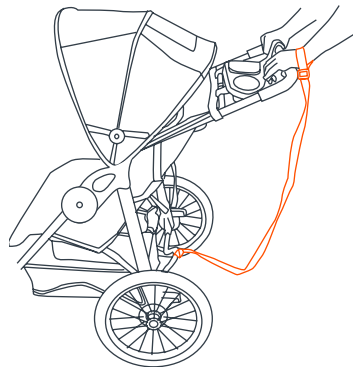

Fig. 16a
• **SAFETY WRIST STRAP:** Always connect the safety strap to either wrist when jogging. This strap will keep the stroller from rolling away in the event that you trip while running (Fig. 16a).